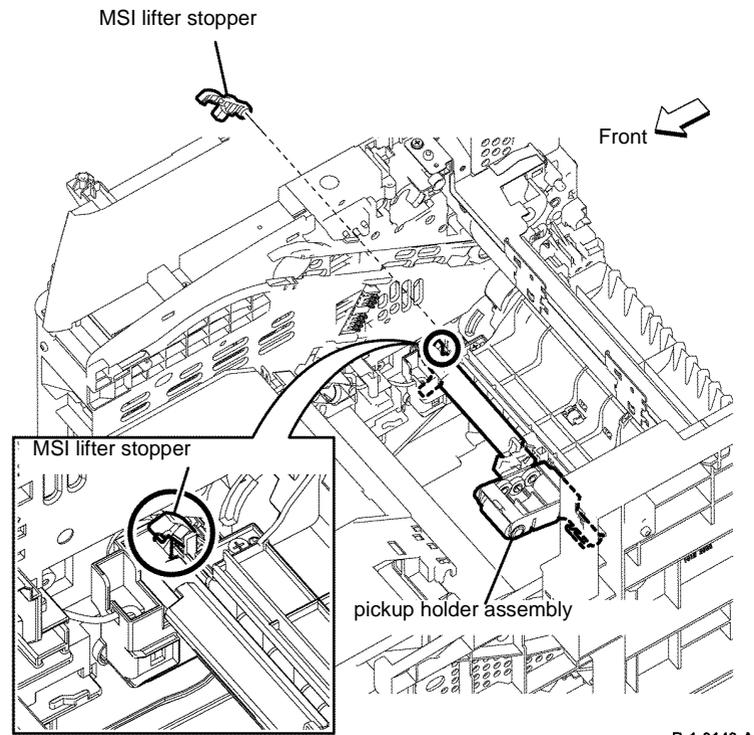

Figure 8 MSI lifter stopper installation
3. When installing the MSI lifter stopper, ensure the pickup holder assembly, is in the position shown, Figure 8.